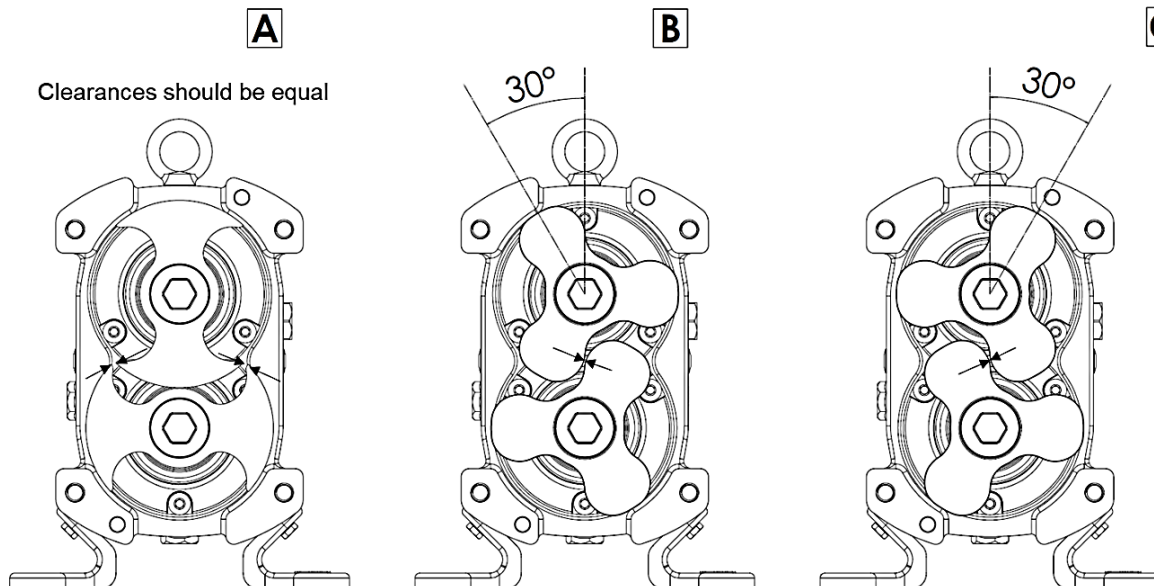

Figure 56: Checking Rotor Timing
8) Rotor timing is critical for the proper pump operation. Once the gears are locked in place install the rotors to the bare shafts and secure them with the rotor screws. For bi-wing rotors the distance between the rotor tips should be equal (Figure 56, A). For tri-lobe rotors measure the clearance between the lobes (Figure 56, B and C). Correct rotor clearance can be found on page 33. If the clearances are incorrect proceed to step 9, otherwise skip to step 10.